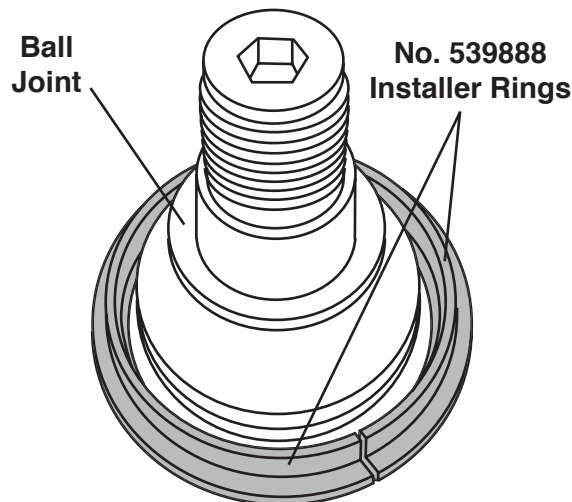

Figure 2
2. Place No. 539888 Installing Rings on the lower ball joint as shown in Figure 2.